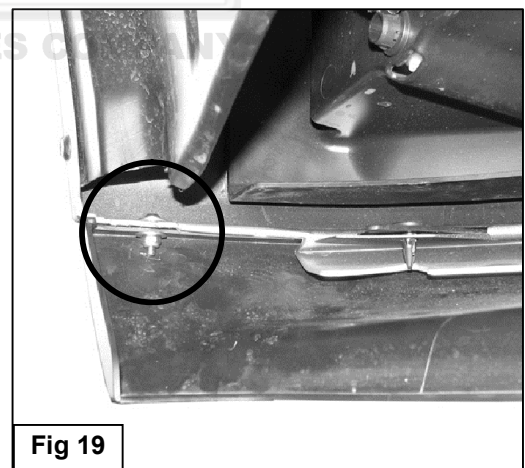

Fig 19
13. Check the fit and reinstall the splash guard using the factory hardware. Use (2) 5mm x 20mm Button Head Bolts, (4) 5mm Flat Washers and (2) 5mm Lock Nuts to replace the rivets if required, **(Figure 19)**.